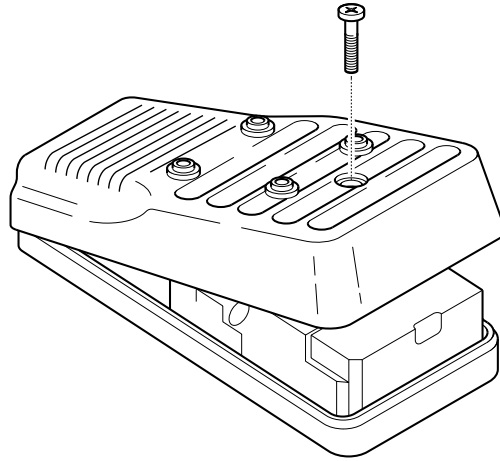

Figure 23: handset cover removal
4. Figure 23 Reinstall the front cover onto the handset assembly by reconnecting the speaker leads onto the handset. Then reinstall the cover securing screw.